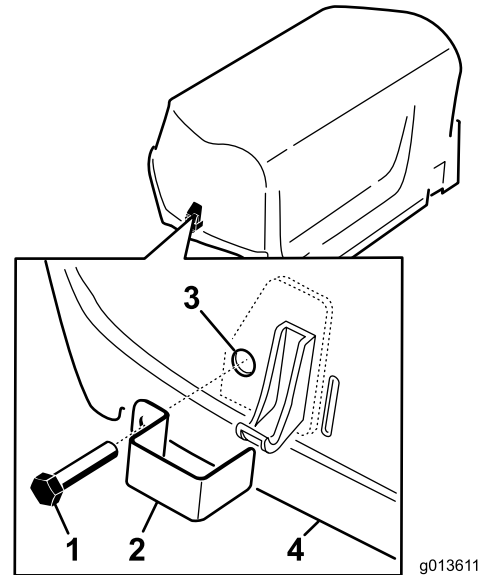

**Figure 15**
2. Install a latch lock over the hood latch (Figure 15) with a tap bolt (2 total).